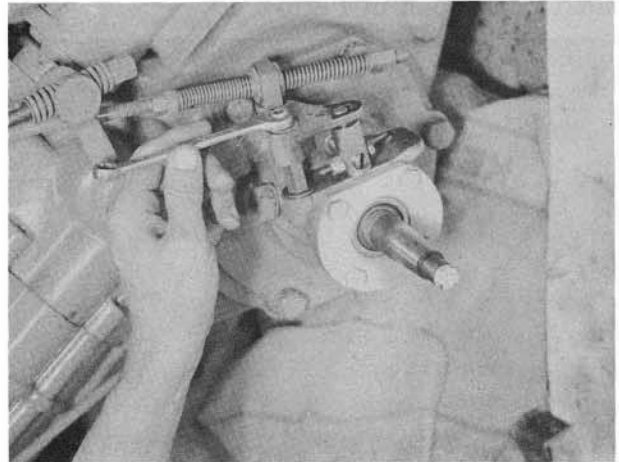

Figure 46
24. Place the Shifter Arm over the bearing shaft of the Stationary Pivot Pin as seen in Figure 46, and the slotted hole of the Shifter Arm over the Shifter Pin. Tighten with Flat Washer (401) and elastic stop nut.